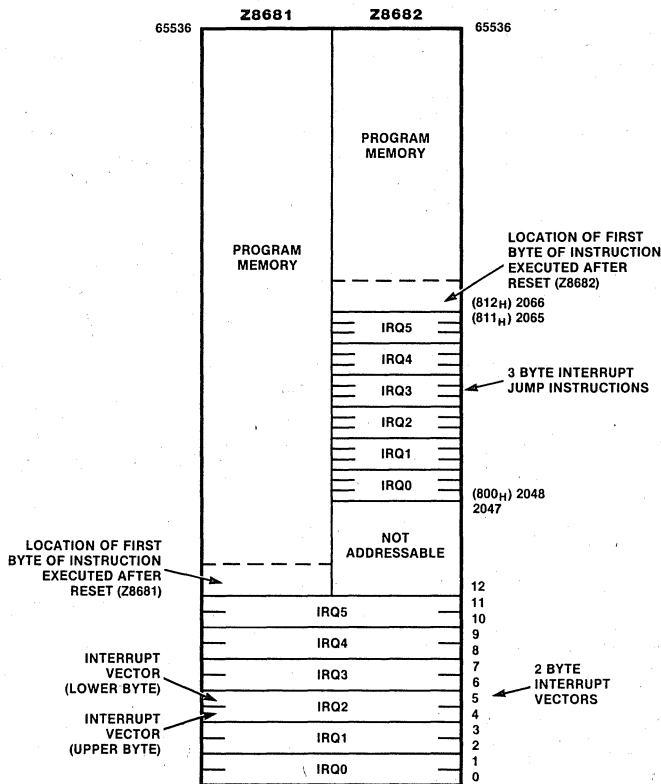

Figure 4. Z8681/82 Program Memory Map
**Program Memory\*.** The Z8681/82 addresses 64K/62K bytes of external program memory space (Figure 4).
The Z8682 has a small internal ROM that contains six 2-byte interrupt vectors pointing to addresses 2048-2065, where 3-byte jump absolute instructions are located (Figure 4 and Table 1). These jump instructions each contain a 1-byte